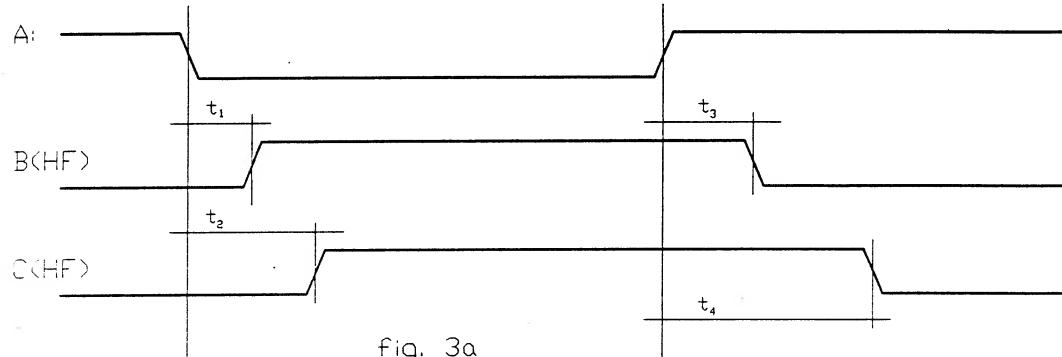

fig. 3a
- Press [F2](h_fault) and measure t1 and t2 as indicated on figure 3a. Next, connect